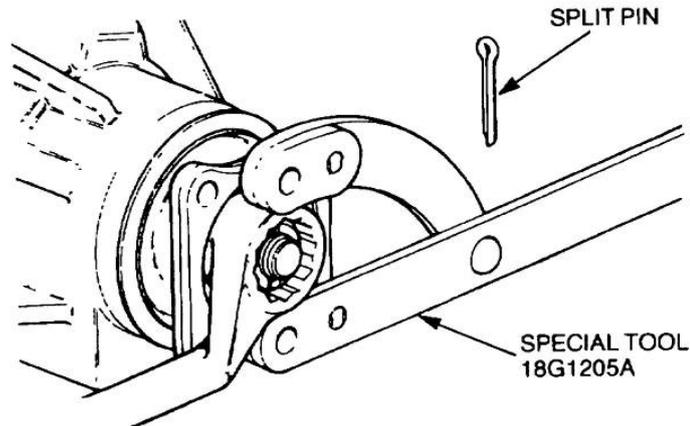

Figure 250 Removal of the Coupling Flange Nut
- d. Remove the split pin securing the coupling flange nut. Using special tool 18G1205A to prevent the flange from turning, remove the nut (Figure 250).